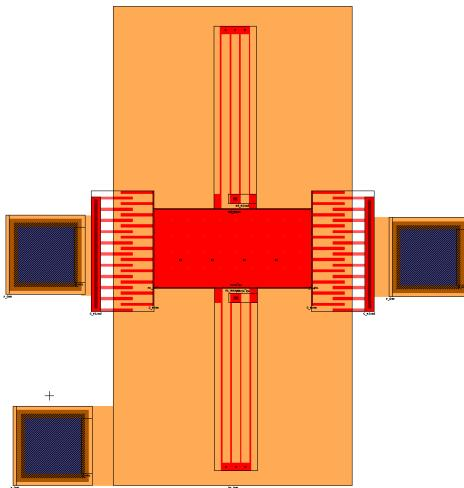

Figure 24: Final view of the lateral resonator
- Home the view, then move the ground plate so that it covers all the moving parts of the resonator (refer to Figure 24).